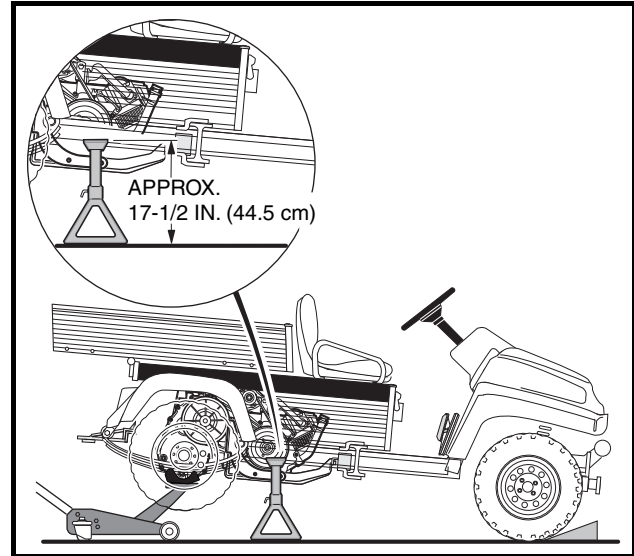

Figure 9-3 Correct Positioning of Jack Stands
4. Position jack stands under the two side stringers as shown (**Figure 9-3, Page 9-3**). Lower the floor jack to let the jack stands support the vehicle. See **WARNING “Lift only one end...”** in **General Warning, Section 1, Page 1-2**.